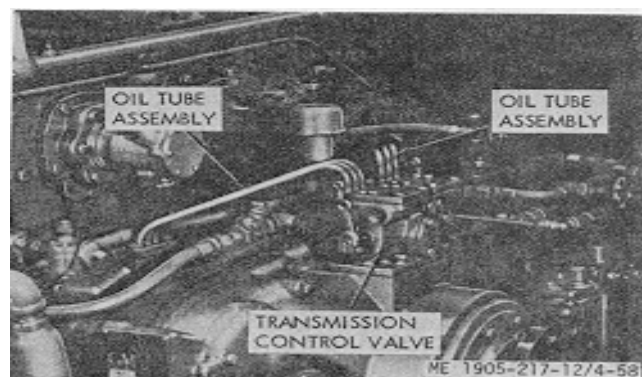

Figure 4-58. Transmission control valve.
**4-71. Transmission Control Valve (fig. 4-58)**